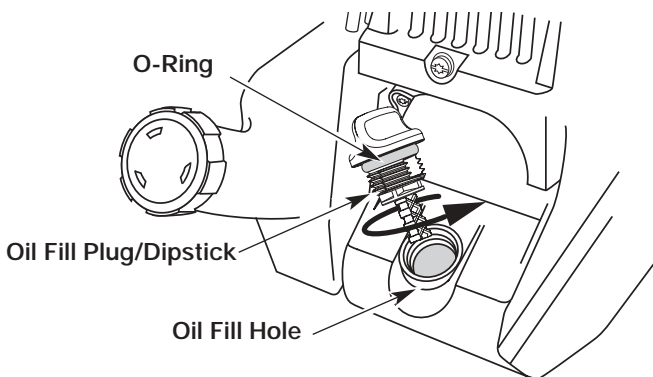

Fig. 17
6. If the level is low, add a small amount of oil to the oil fill hole and recheck (Fig. 17). Repeat this procedure until the oil level reaches the top of the dipstick.
**NOTE:** Make sure the O-ring is in place on the oil fill plug/dipstick when checking and changing the oil (Fig. 17).